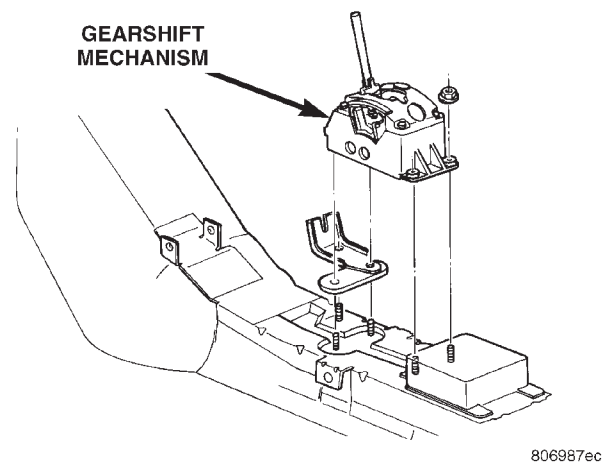

Fig. 17 Gearshift Mechanism
- (7) Remove the nuts at the base of the gearshift mechanism (Fig. 17). Remove the shifter assy. and cable bracket.
- (1) Install shifter assy and bracket (Fig. 17). Tighten the nuts to 17 N·m (150 in. lbs.).